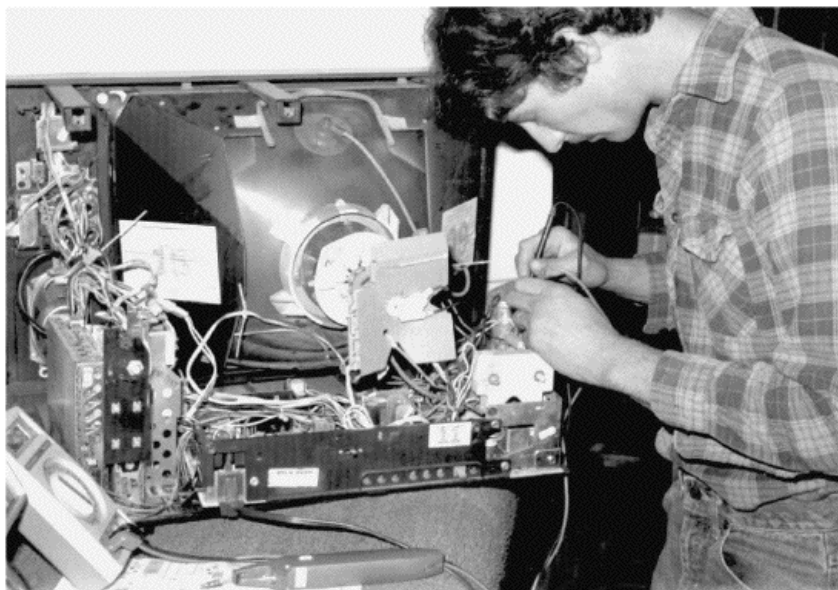

FIGURE 12-4 With a digital multimeter and a soldering iron, you can eliminate most sound problems.
- VTVM, VOM, or DMM (Fig. 12-4)